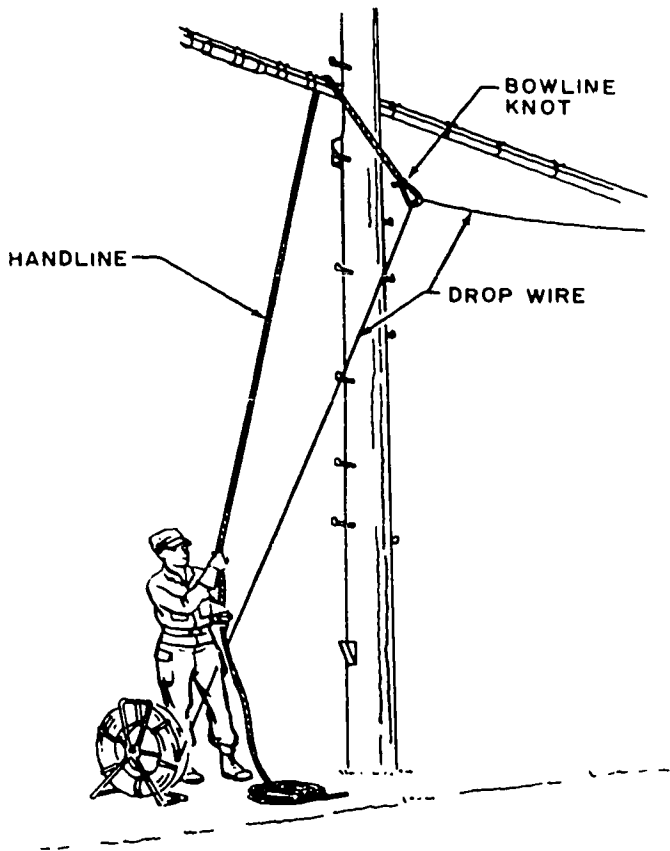

Figure 4-3. Securing handline.
i. Secure the drop wire in this position by tying the free end of the handline to a pole step or to the base of the pole with a clove hitch (fig. 4-3).